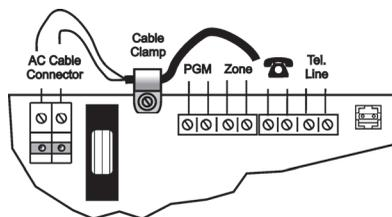

Figure 2-5: Main Board Wiring Scheme
- Thread the Power AC cable through the hole in the back cover. Connect it to the AC cable connector on the PCB and secure it by Cable Clamp (see p. 9, Figure 2-5).
6. Connect the optional Telephone Line, Telephone, Wired Zone, and PGM to their connectors on the Main Board terminal block – see p. 9, Figure 2-5.